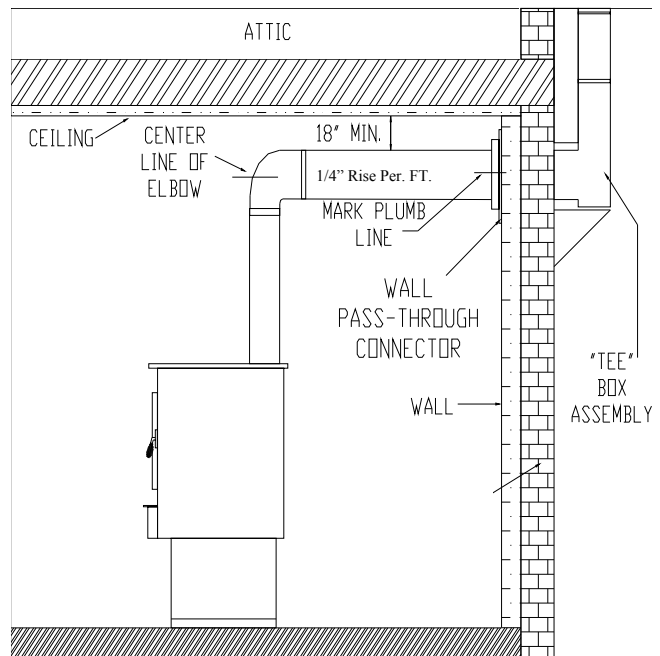

FIGURE 6
1. Mark the plumb line on the wall directly behind the center of the heater. (See Figure 6.)